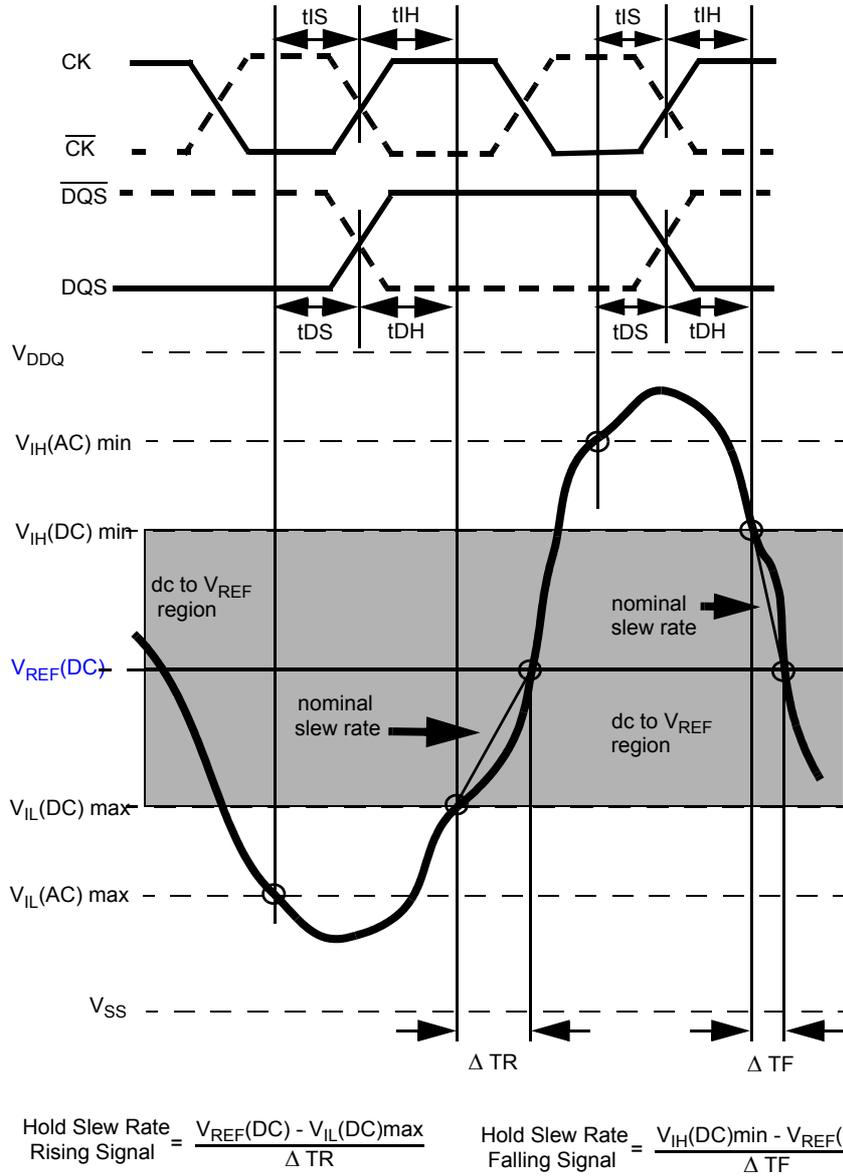

Figure 22. Illustration of nominal slew rate for hold time t_{DH} (for DQ with respect to strobe) and t_{IH} (for ADD/CMD with respect to clock).
Hold (tIH) nominal slew rate for a rising signal is defined as the slew rate between the last crossing of V_{IL}(DC)max and the first crossing of V_{REF}(DC). Hold (tIH) nominal slew rate for a falling signal is defined as the slew rate between the last crossing of V_{IH}(DC)min and the first crossing of V_{REF}(DC). If the actual signal is always later than the nominal slew rate line between shaded 'dc to V_{REF}(DC) region', use nominal slew rate for derating value (see Figure 22). If the actual signal is earlier than the nominal slew rate line anywhere between shaded 'dc to V_{REF}(DC) region', the slew rate of a tangent line to the actual signal from the dc level to V_{REF}(DC) level is used for derating value (see Figure 24).